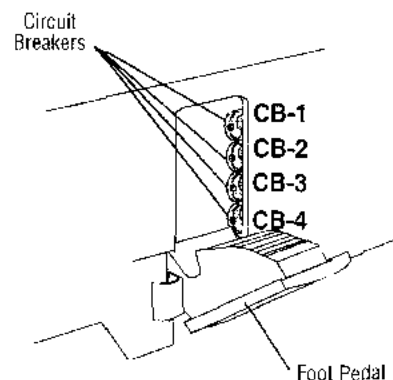

Figure 8-1. Circuit Breakers
1. Lower foot pedal on table base to access the circuit breakers (located on right of opening when foot pedal is down). See Figure 8-1.